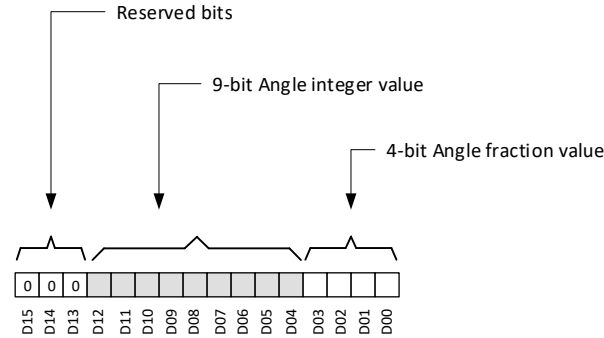

图 7-17. Angle Data Definition
The TMAG5173-Q1 calculates the angle from a pair of magnetic axes based off the ANGLE\_EN register bits setting. 图 7-17 shows the angle information stored in the ANGLE\_RESULT\_MSB and ANGLE\_RESULT\_LSB registers. Bits D04-D12 store angle integer value from 0 to 360 degree. Bits D00-D03 store fractional angle value. The 3-MSB bits are always populated as b000. Use 方程式 14 to calculate the angle value.
- $D_i$  is the data bit as shown in 图 7-17.